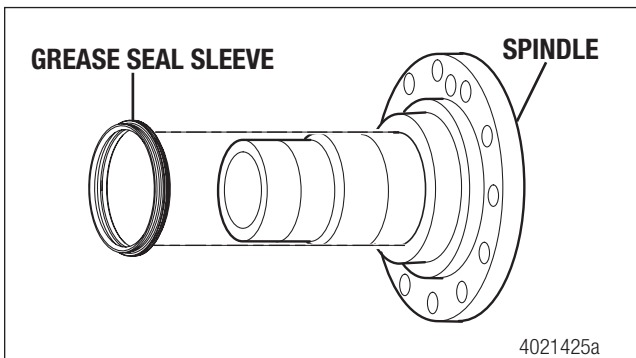

Figure 4.13
6. Use a suitable tool to remove the grease seal sleeve from the spindle. Discard the grease seal sleeve. Figure 4.13.